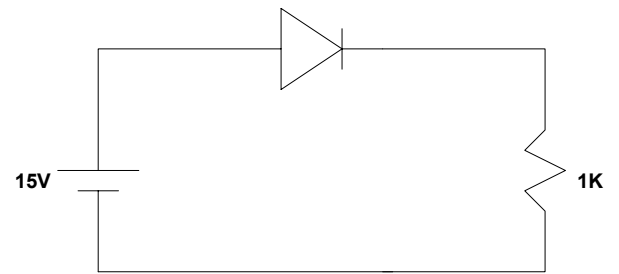

Figure 2
2. In figure 2, calculate the current flowing through the diode for the following diode models (2+3+3=8 points)
In figure 2, assume that the diode given is a 1N4004. From the data given in the spec sheet, calculate, the current flowing through the diode. You can access the data sheet from thr following site